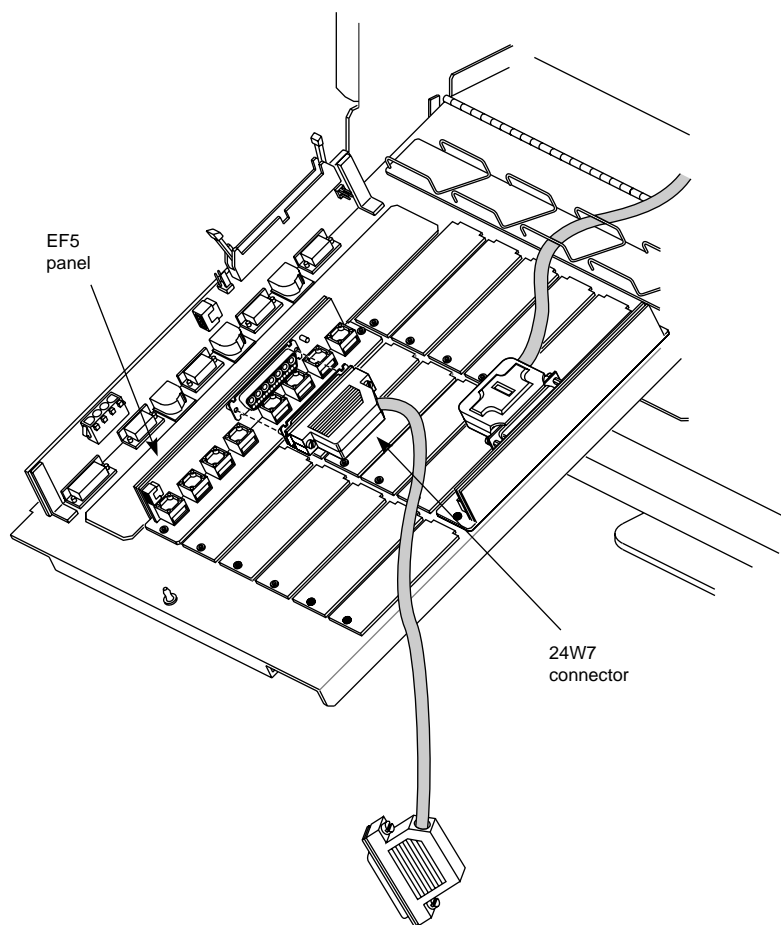

Figure 2-4 Attaching the 24W7 Cable to the EF5 0 and 5 Panel
4. Attach one end of a 24W7 cable to the connector on the EF5 panel for channels 0 and 5. The cable should exit toward the bottom of the board, as shown in Figure 2-4. Screw it in.